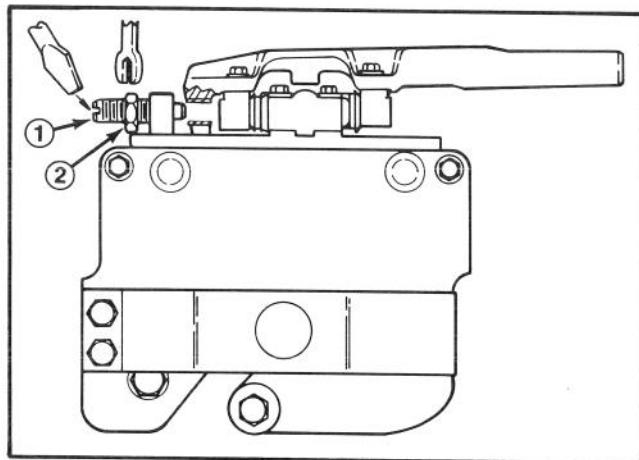

Figure 14
A. **Float Position** (Fig. 14) — Allows cutting units to float freely and follow turf undulations, this position is recommended when mowing at heights-of-cut less than 1-inch (25 mm) and removing less than approx. one inch (25 mm) of clippings.
Float Position: Loosen jam nut, unscrew lockout pin until it disengages from the pivot arm. Tighten jam nut (Fig. 14).
- J. Loosen lockout pin so cutting unit can float freely (refer to Cutting Unit Orientation, Fig. 14).